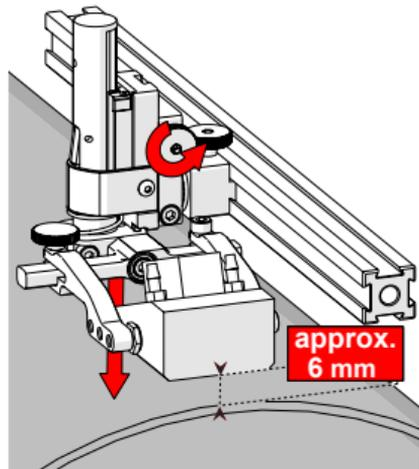

Fig. 71 - Lower toward scan surface
3. Tighten the vertical adjustment knob (Fig. 71).